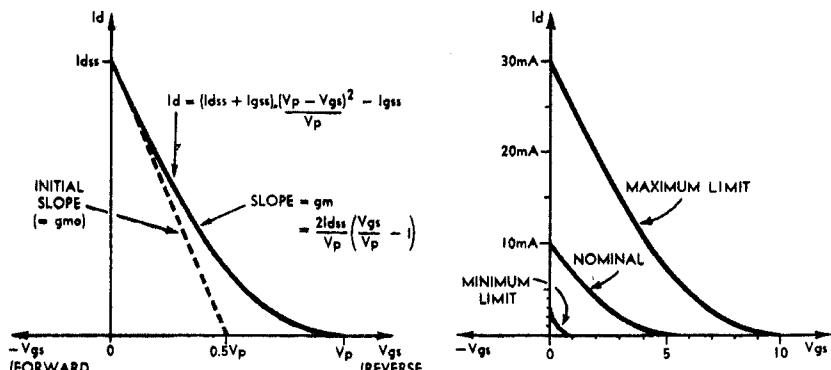
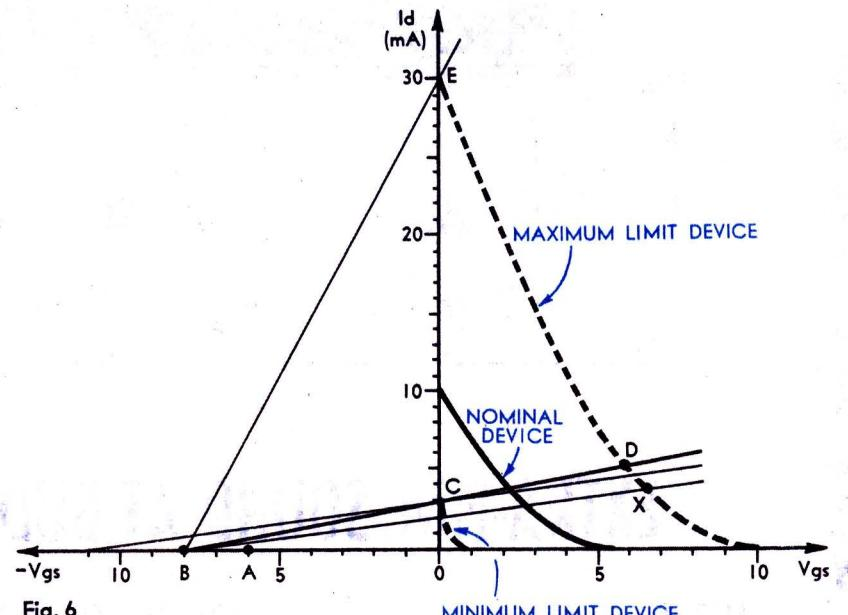

Fig. 4
Fig. 6
Put into words, the implication of expression (2) is that the tangent to the transfer characteristic at $Id = Id_{ss}$ intersects the horizontal axis at $V_p/2$. This is indicated by the dashed line in figure 4(a), which also shows the other general properties of the JFET characteristics.
We have now reached a point where we can draw transfer curves for a device representing both its nominal behaviour and the limits of spread variation. This information has been drawn for the 2N4360 in figure 4(b).
Hence for a practical circuit using a device such as the 2N4360 considered earlier the diagram will in fact resemble figure 6. As in figure 4(b) there are now three curves representing the nominal, maximum and minimum limiting values for the transfer characteristic of the given device type.
Once V_{dd} and the fixed forward bias are selected to ensure pentode operation of all devices, the next step is to examine the diagram of figure 6 with a